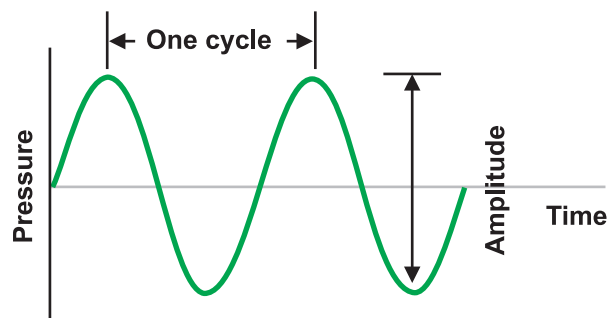

Figure 6.2: The amplitude of a wave / One 'cycle'
1. Amplitude: This is the difference between the highest ('peak') and the lowest portion ('trough') of a wave, and is a measure of the strength of the wave. The larger the amplitude, the higher the energy of the wave, and the greater the distance it will travel. In terms of sound waves or audio waves, the larger the amplitude, the louder the sound. The concept of amplitude and frequency is illustrated in Figure 6.2.